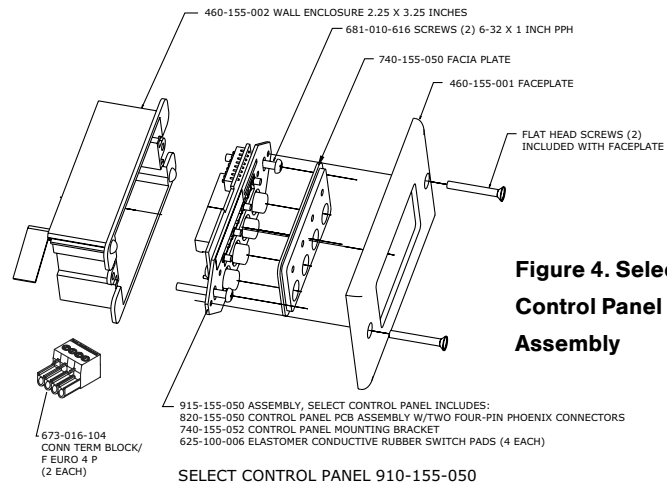

Figure 4. Select Control Panel Assembly
**Step 5** As shown in Figures 4 and 5, use the supplied pan-head screws to install the Control Panel PCB assembly to the electrical wall box.
**Step 6** To install the facia plate, position it over the conductive rubber switch pads on the PCB assembly, as shown in Figures 4 and 5.